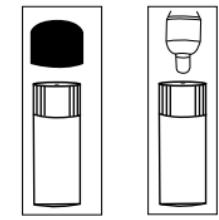

Abbildung 3A
2. Remove the vinyl cap from the vial to expose the small leak hole as shown in Figure 3A below. DO NOT UNTWIST THE BLACK CAP FROM THE BOTTLE.